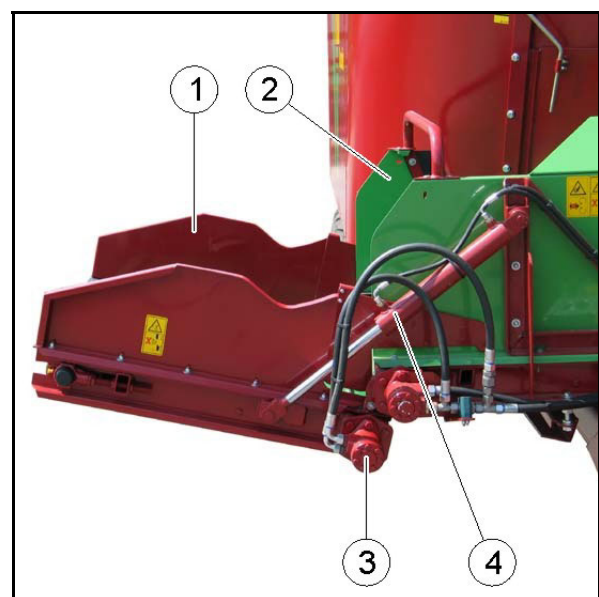

Fig. 34
- is powered by the hydraulic motor (3),
- is swivelled from transport position to working position and vice versa via the double-acting hydraulic cylinder (4) by remote control from the tractor. Fig. 34 shows the conveyor extension in working position.
- is powered jointly with the crossover conveyor (2).